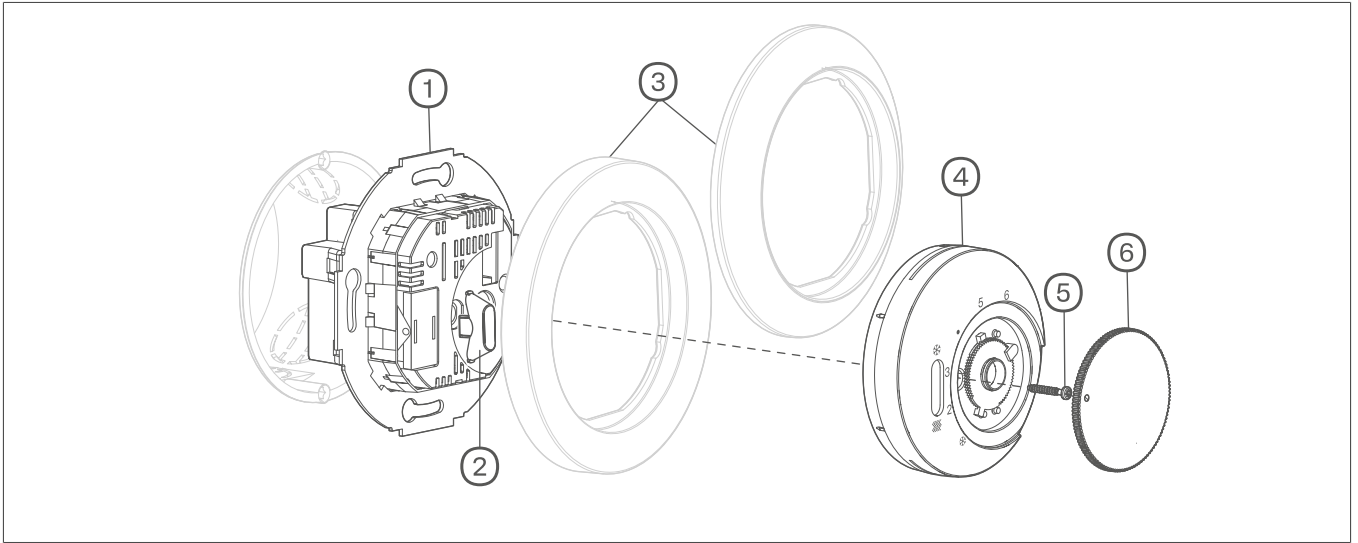

Fig. 1: Design and layout of the device
- 2 Insert the rocker for heating/cooling switch (2) into the right-hand opening of the rocker switch (7)(Fig. 1).
- 3 Position the centre piece (4) correctly over the cover frame (3) and secure it using the fastening screw (5).
- 4 Attach the setting knob (6).